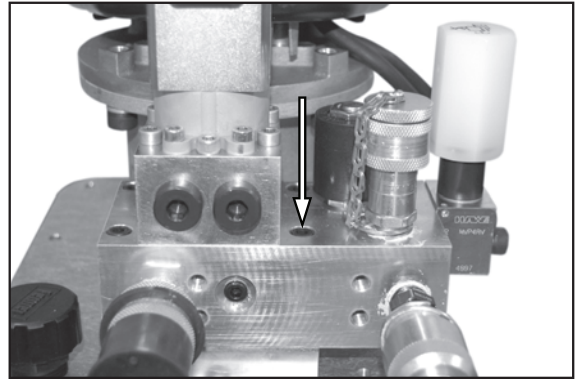

Figure 71.
3. See Figure 71. Remove the four manifold assembly bolts and remove the manifold assembly.